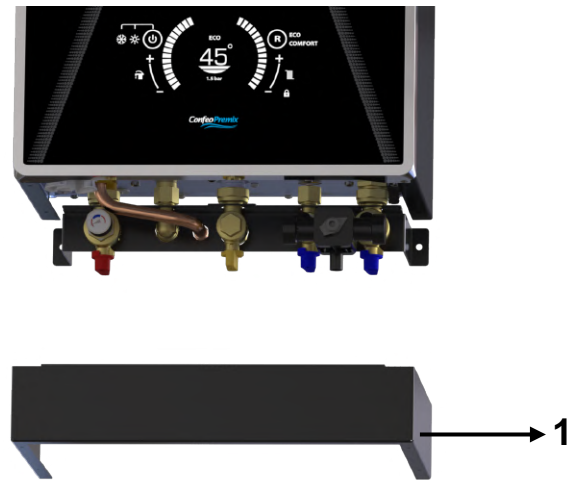

Figure 13. Isolation Valve Cover Mounting
- ✓ It is not recommended to install "Isolating Valve Cover" (figure 13-No 1) to the boiler if kitchen cupboard is used for installation place. It can be used at open space areas to hide valve set and filling loop.